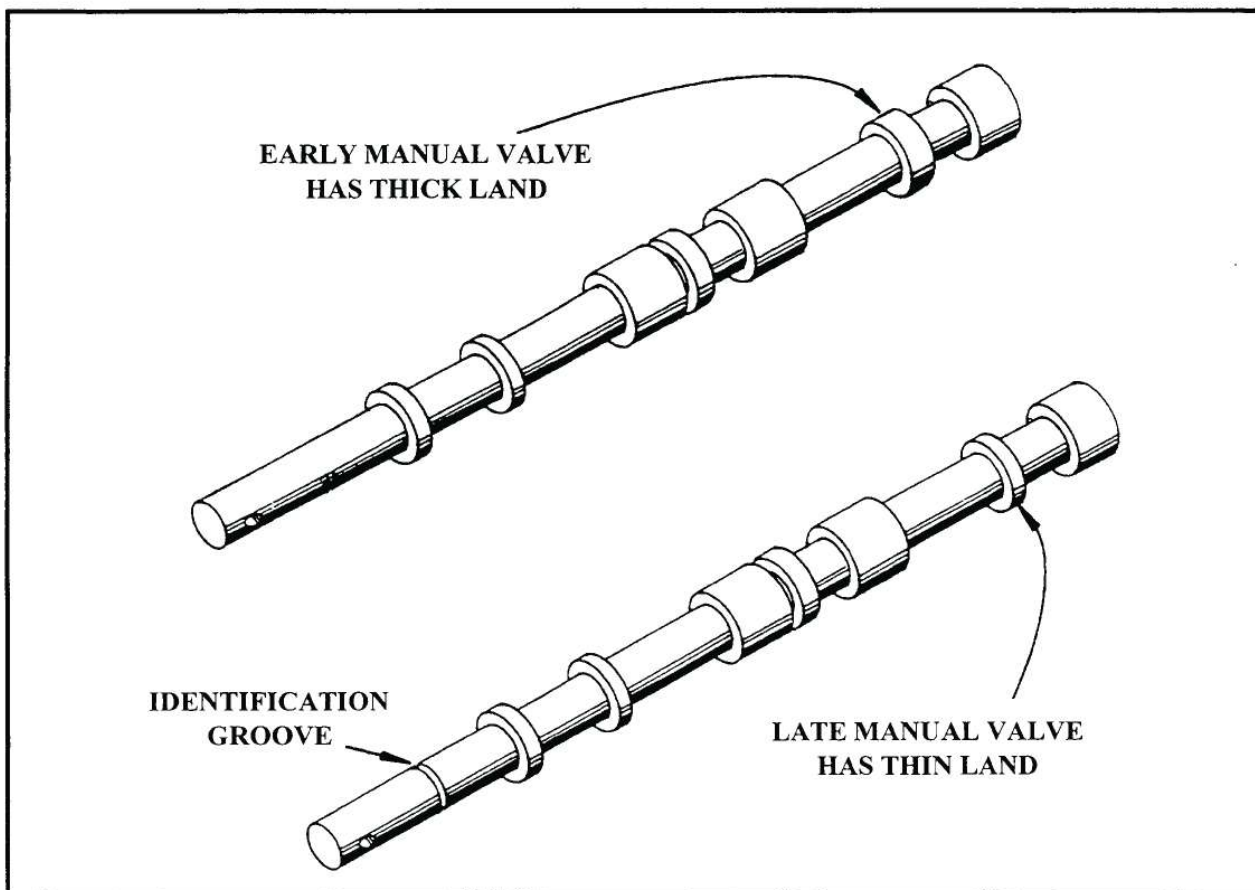

Figure 76
**MANUAL VALVE** - The 2nd design manual valve has a thinner land on it as shown in Figure 76, and is identified by a groove just behind the manual valve link hole.